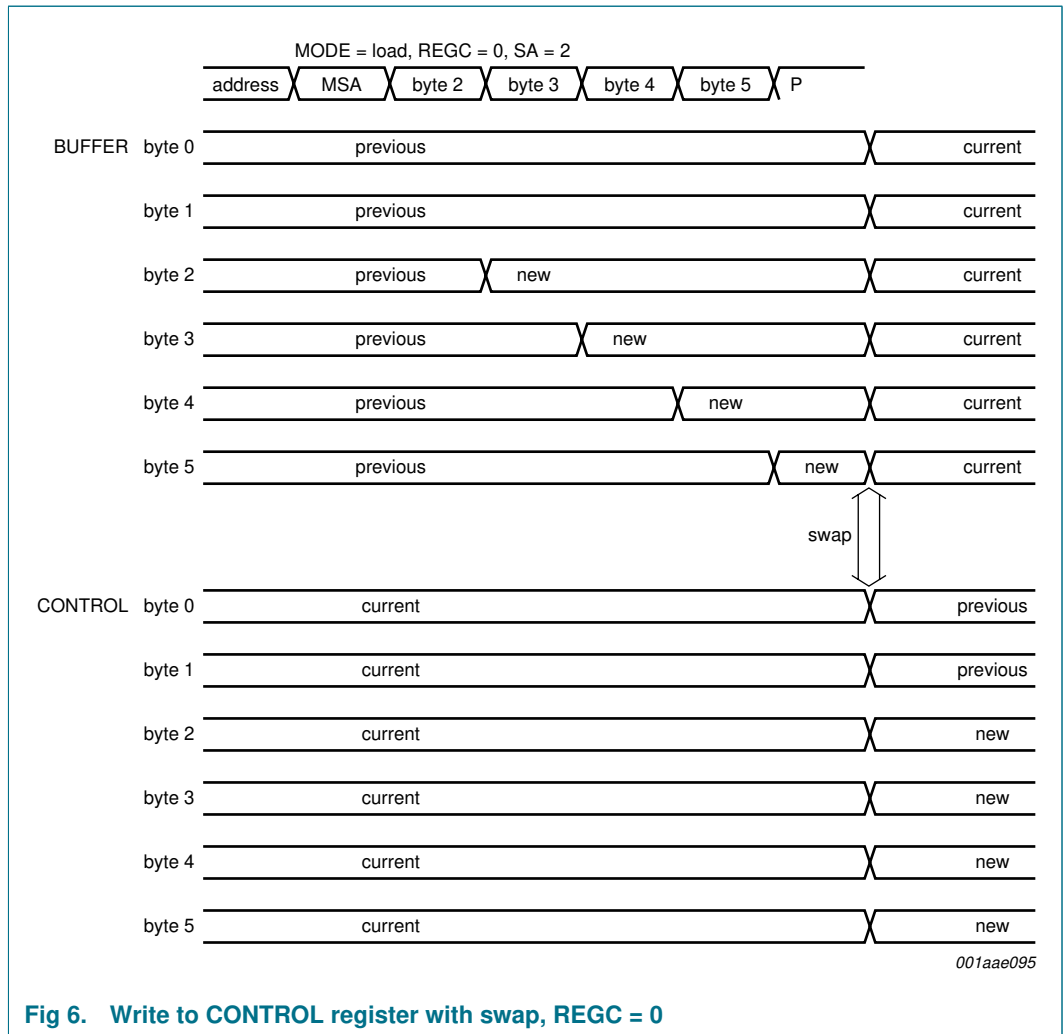
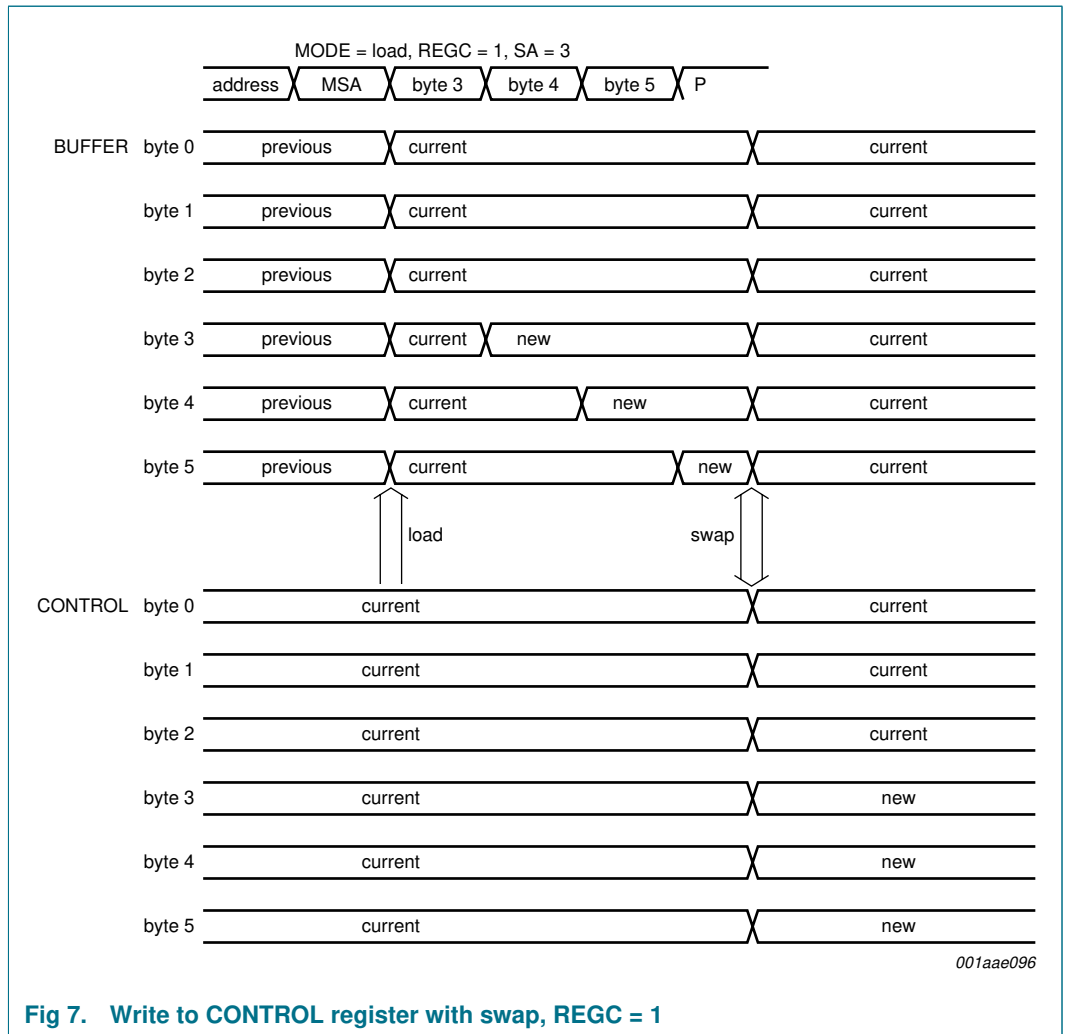

Fig 6. Write to CONTROL register with swap, REGC = 0
Fig 7. Write to CONTROL register with swap, REGC = 1
Controlled by a state machine, the BUFFER data will be loaded into the CONTROL register for new settings. However, at the same time the CONTROL data is loaded into the BUFFER register. This register swap action allows a fast return to the previous setting because the previous data remains available in the BUFFER register (see Figure 6 and Figure 7).
- With REGC = 0, any BUFFER data that is not newly written via I2C-bus remains unchanged. In general, the BUFFER register will contain the previous tuner setting, so this becomes default for the new setting. When only the MSA byte is transmitted defining a tuning MODE with REGC = 0, the tuner will return to its previous settings (see Figure 6).
- With REGC = 1, the BUFFER register is loaded with data from the CONTROL register first. This way, not written BUFFER data equals the CONTROL data. Since the CONTROL register contains the current tuner setting with REGC = 1, the current tuner setting is default for the new setting. When a tuning MODE action is defined with REGC = 1, the tuner will keep its current settings (CONTROL = current) for all data that is not newly written during the transmission (see Figure 7).